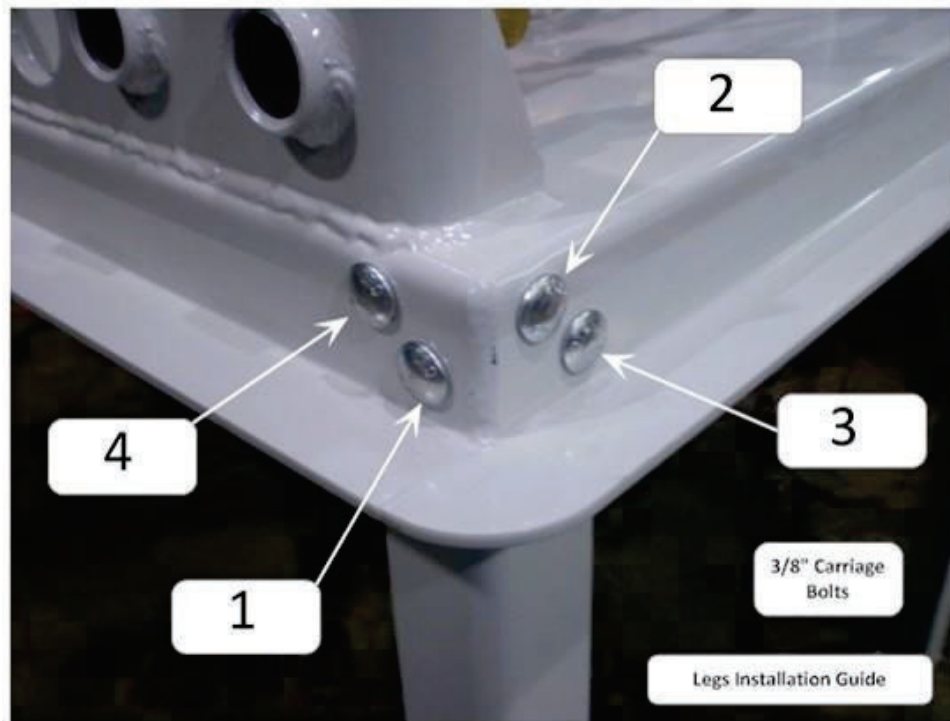

Figure 1-1: Bolting sequence to attach legs to the GREEN MACHINE base
2. Install the 4 legs on the GREEN MACHINE. The four 3/8" carriage bolts for each leg **MUST BE INSTALLED AND TIGHTENED IN THE SEQUENCE INDICATED ON Figure 1-1.**